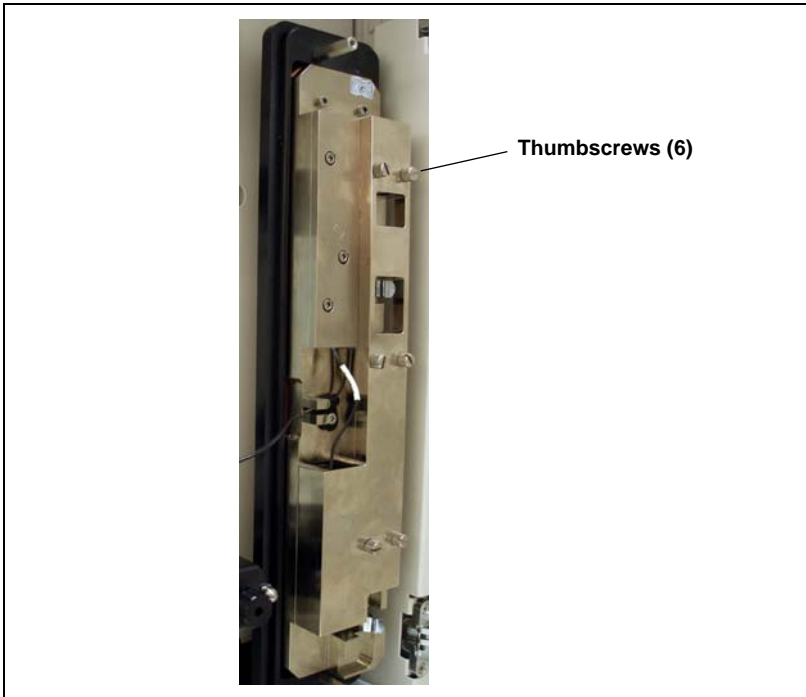

Figure 5-23. Dionex ICS-2100 Column Heater Cover Removed
- c. Unscrew the six thumbscrews on the top metal plate (see Figure 5-23) and remove the plate.